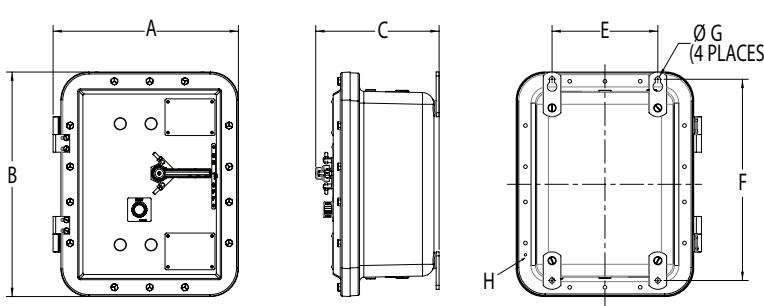

Figure 1
1. Select a mounting location that will provide suitable strength and rigidity for supporting all contained wiring, components and control devices. Figure 1 and Table 1 show the mounting dimensions.